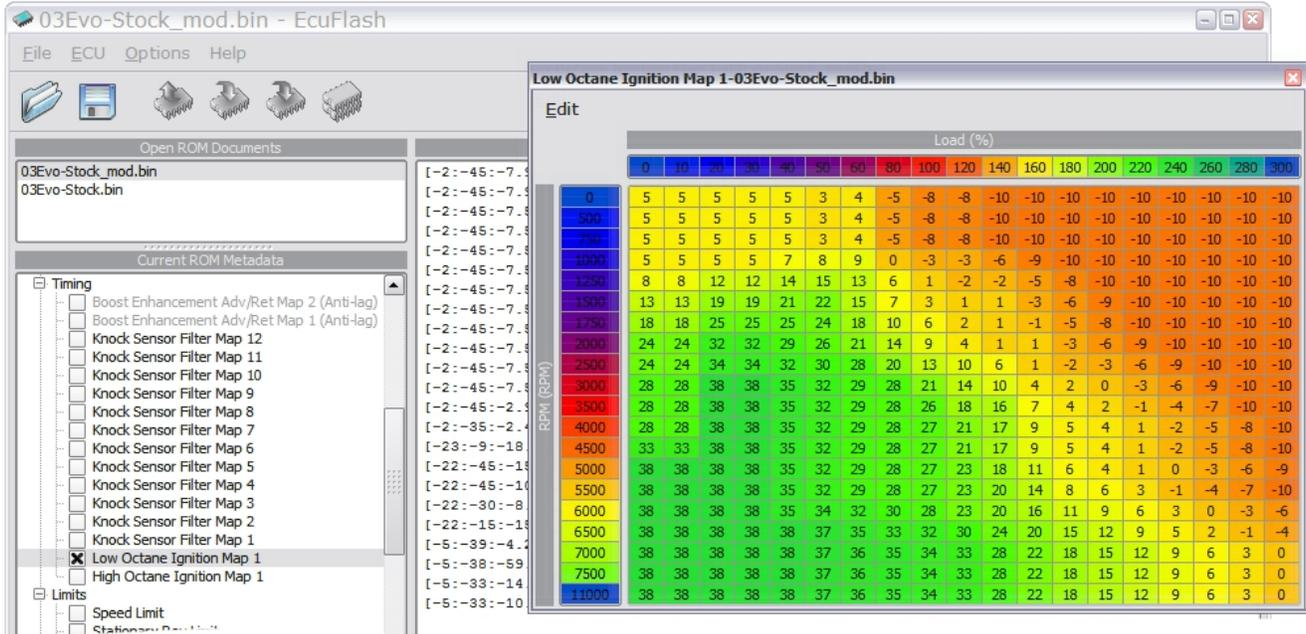
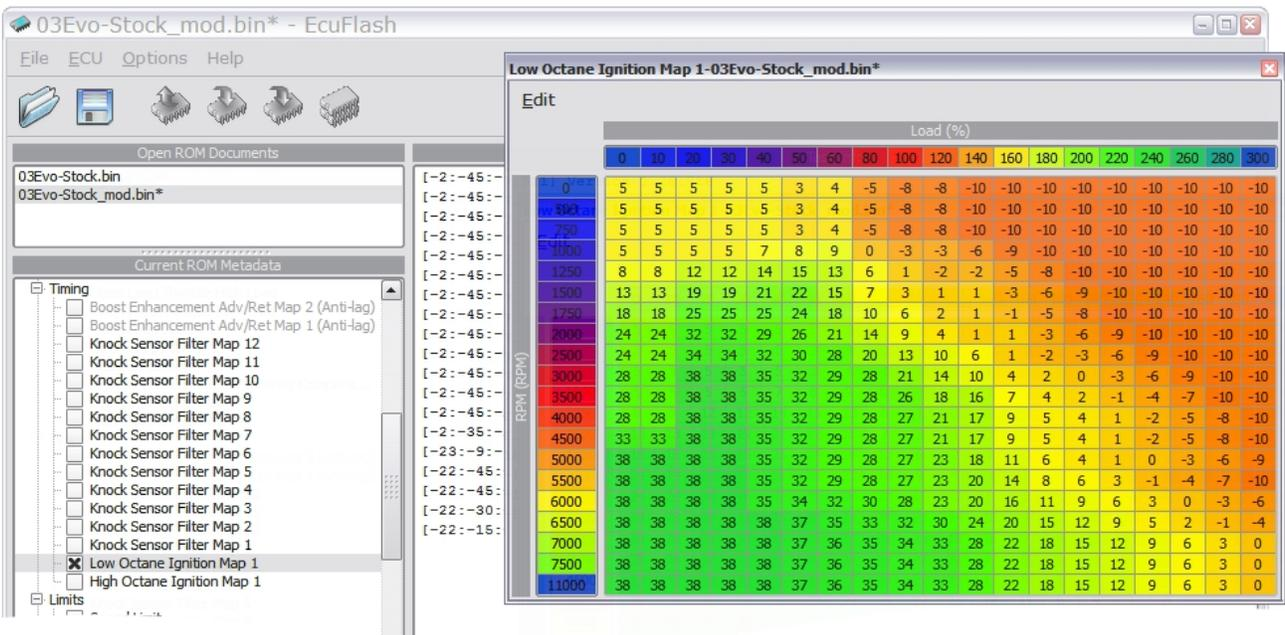

Figure 23, modified 2003 Evolution VIII ECU Low Octane Ignition Map, new Load (%) scale but still with stock timing values
Figure 24, modified 2003 Evolution VIII ECU Low Octane Ignition Map, timing values moved and rescaled
Follow the instructions in steps (4) and (5), with Figure 23 and 24 as a guide. The current Low Octane Timing Map should look like the map in Figure 23. The data of the former 80% column and the former 100-260% columns need to be moved back under their correct header values (step 4), then the timing values in the 280% and 300% load columns need to be adjusted (step 5). The final Low Octane Timing Map should look like the map shown in Figure 24.